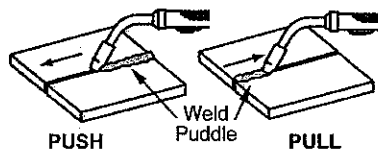

Figure 9. Gun Travel Direction
1. TRAVEL DIRECTION is the direction the gun is moved along the weld joint in relation to the weld puddle. The gun is either **PUSHED** (see Figure 9) into the weld puddle or **PULLED** away from the weld puddle.